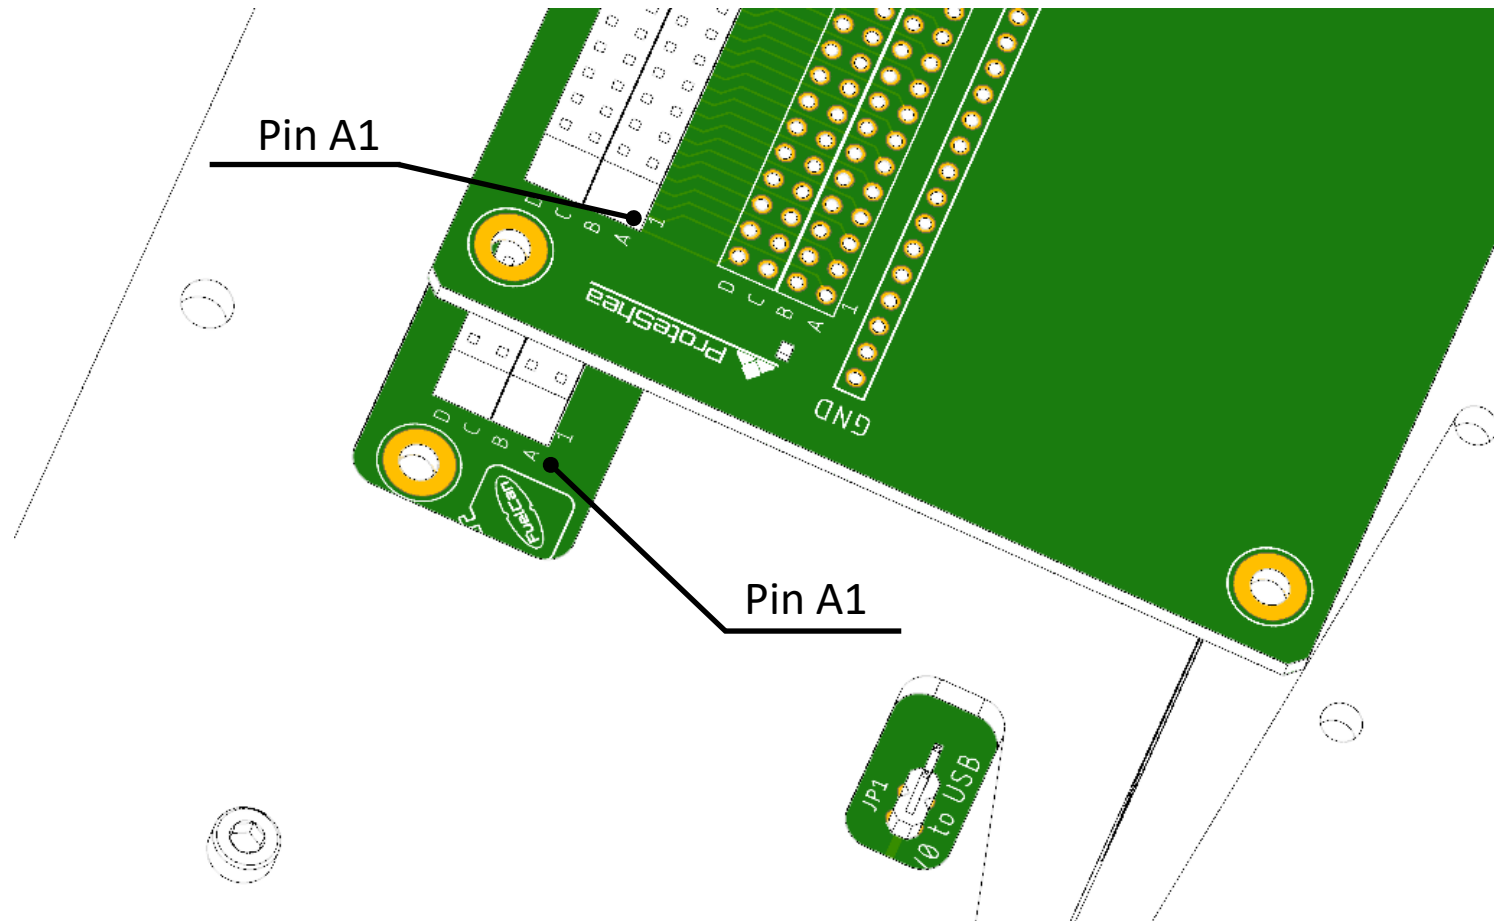

Figure 6. Proper Alignment of Canister to Main Interface Board.
6. Use Fig. 6 below to correctly orientate the Canister with the Fuelcan Main Interface or another Canister by aligning pin A1 on both boards.
2. Use two hands and apply even pressure on both sides of the Canister (areas marked in red in Fig. 6) to pull the board vertically out of the Main Interface board.